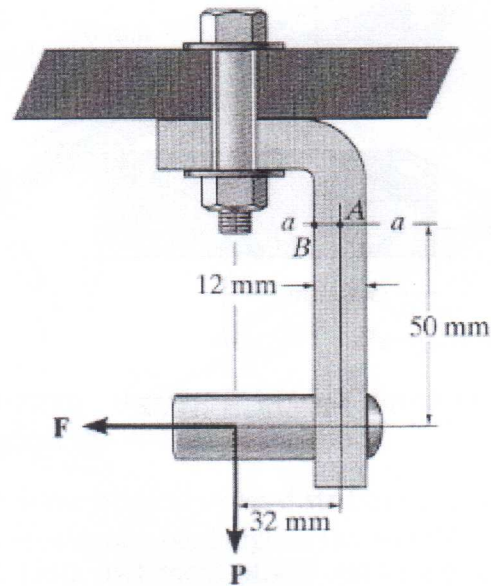

Figure 3.
- (3) The joint, shown in Figure 3, is subjected to forces $P = 1$ KN and $F = 0.75$ KN. Determine the state of stress at points A and B . The member has a rectangular cross-sectional area of width 18 mm and thickness 12 mm.